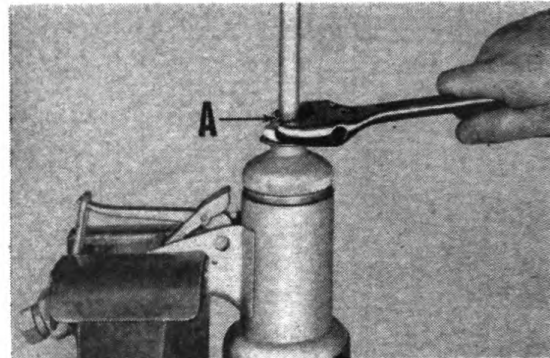
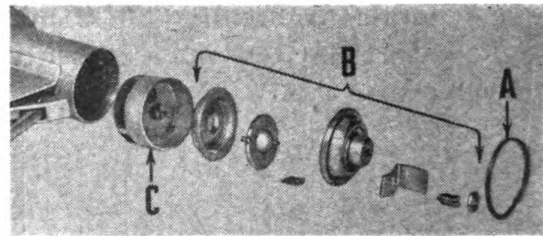

Figure 198
Figure 199
(10) Pry out gasket ("A" Figure 199), remove entire wobbler assembly ("B"), and gear train ("C").
(14) Replace gear train assembly ("C" Figure 199), making
sure that gears mesh with spindle gear. Then replace wobbler ("B" Figure 199), gasket ("A"), and cap and adapter (See Figure 198).
(a) Unscrew nozzle pipe at "A" Figure 198 and insert $\frac{1}{4}$ " pipe plug at this point.
(7) Remove housing cap and nozzle (assembled), pry out gasket ("A" Figure 199), remove entire wobbler assembly ("B" Figure 199), and gear train ("C" Figure 199).
(11) Replace gear train assembly ("C" Figure 199), making sure that gears mesh with spindle gear. Then replace wobbler ("B" Figure 199), gasket ("C" Figure 199), cap and nozzle.
(12) Test spindle packing for leakage as follows: